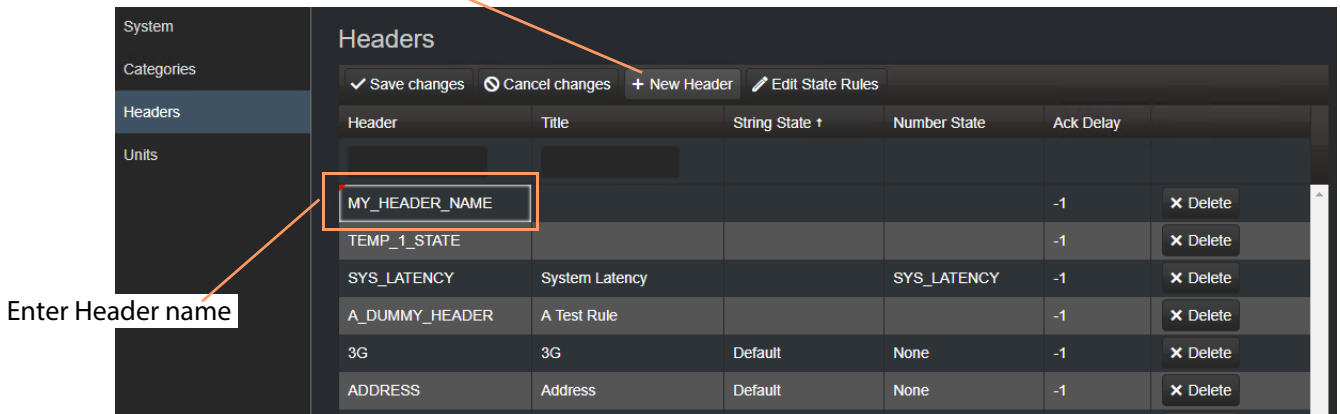

Fig. 2-21: Enter Header Name that the New Rule will Apply to.
- 3 Enter the Header name for the new Header rule. See Figure 2-21.